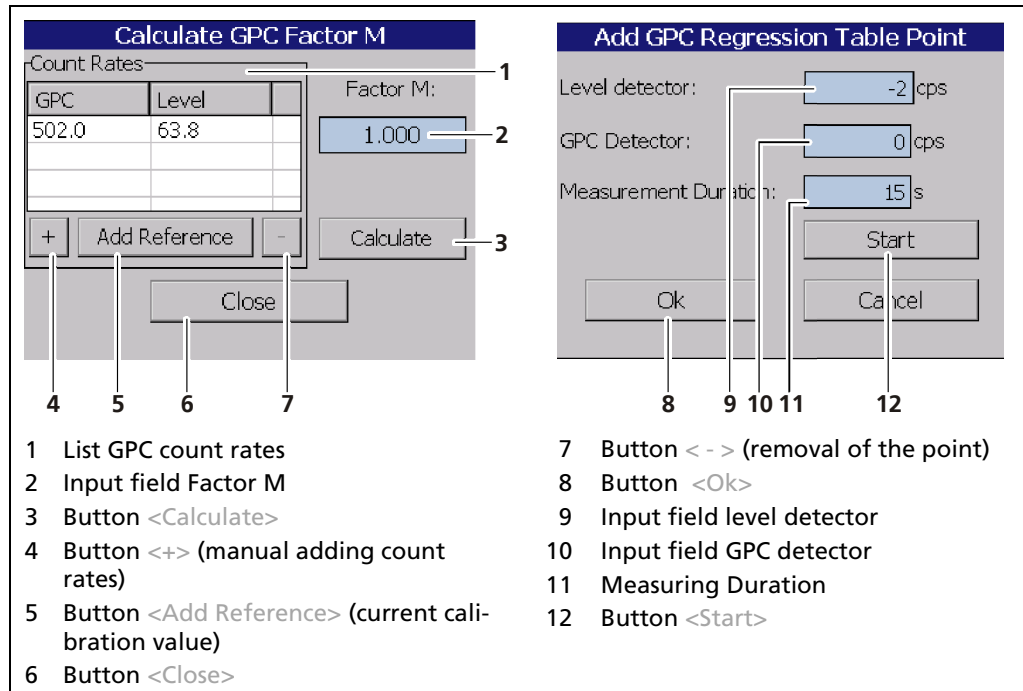

Fig. 96 GPC Calibration: Calculate factor M
To calculate the correct factor M, click on the input field for the factor M. In this table the first calibration point can be inserted directly from the available data with the button < Add Reference > (Fig. 96, item 5). At least one more point is required to calculate a factor M. This second point is ideally taken at the highest occurring gas density. Further table points with other gas densities improve the accuracy of Factor M. With the button < Calculate > (Fig. 96, item 3) the factor M is calculated from the table values.
- Click on the < + > button (Fig. 96, item 4) to add a new point. For this, the pressure in the container must be changed.
- Click on the input field "Read-In-Time" (Fig. 96, item 11) and enter a measurement time. Confirm with the Enter key.
- Click on the button <Start> (Fig. 96, item 12). Make sure that the actual level in the container does not rise above 0% during the measurement time.
The "Factor M" (Fig. 96, item 2) is close to 1 (default value) for standard applications.
1. Click the button < Calculate > (Fig. 96, item 3) to determine Factor M from the count rate table.
- ▶ Factor M has been calculated and is displayed in the input field (Fig. 96, item 2).